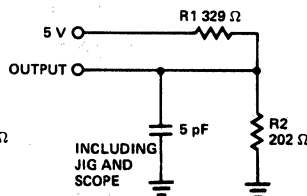

Figure 1b
- t_{HZCS}, t_{HZOE}, t_{HZR} and t_{HZWE} are tested with C_L = 5 pF as in Figure 1b. Transition is measured ± 500 mV from steady state voltage.